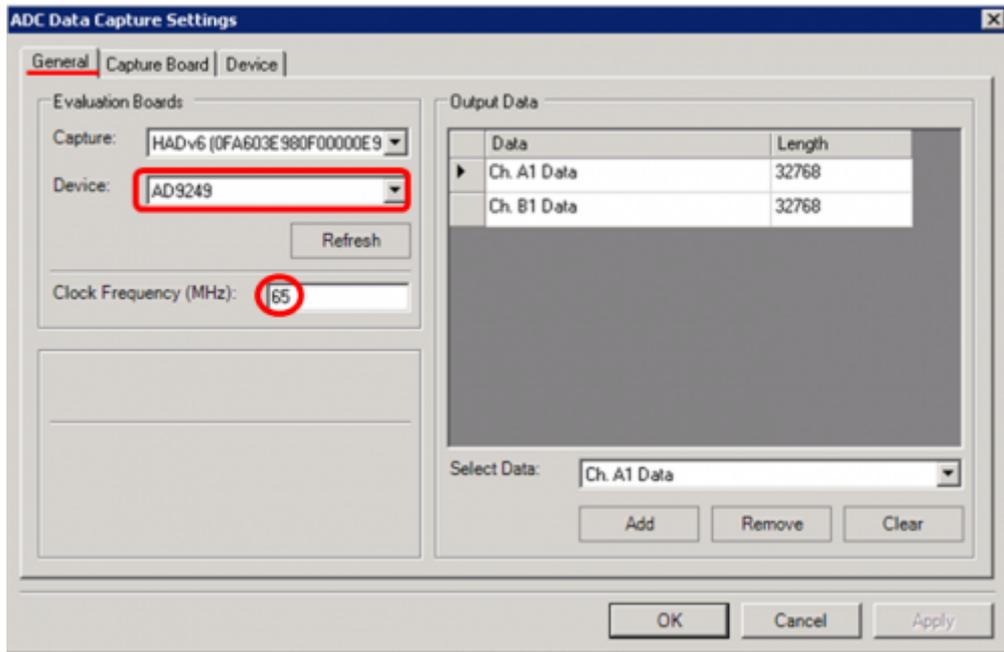

Figure 8. VisualAnalog ADC Data Capture Settings Window, General Tab
5. In the ADC Data Capture Settings Window, General Tab, select AD9249 to be the device, enter the sample clock frequency (65 is the default value), as shown in Figure 8. The sample frequency entered here is used for scaling of frequency values in test results and graphs. In the Output Data field, the channels to be tested are selected, as well as the FFT capture depth ("Length"). Note that the total of the capture depths for all selected channels cannot exceed 256k.